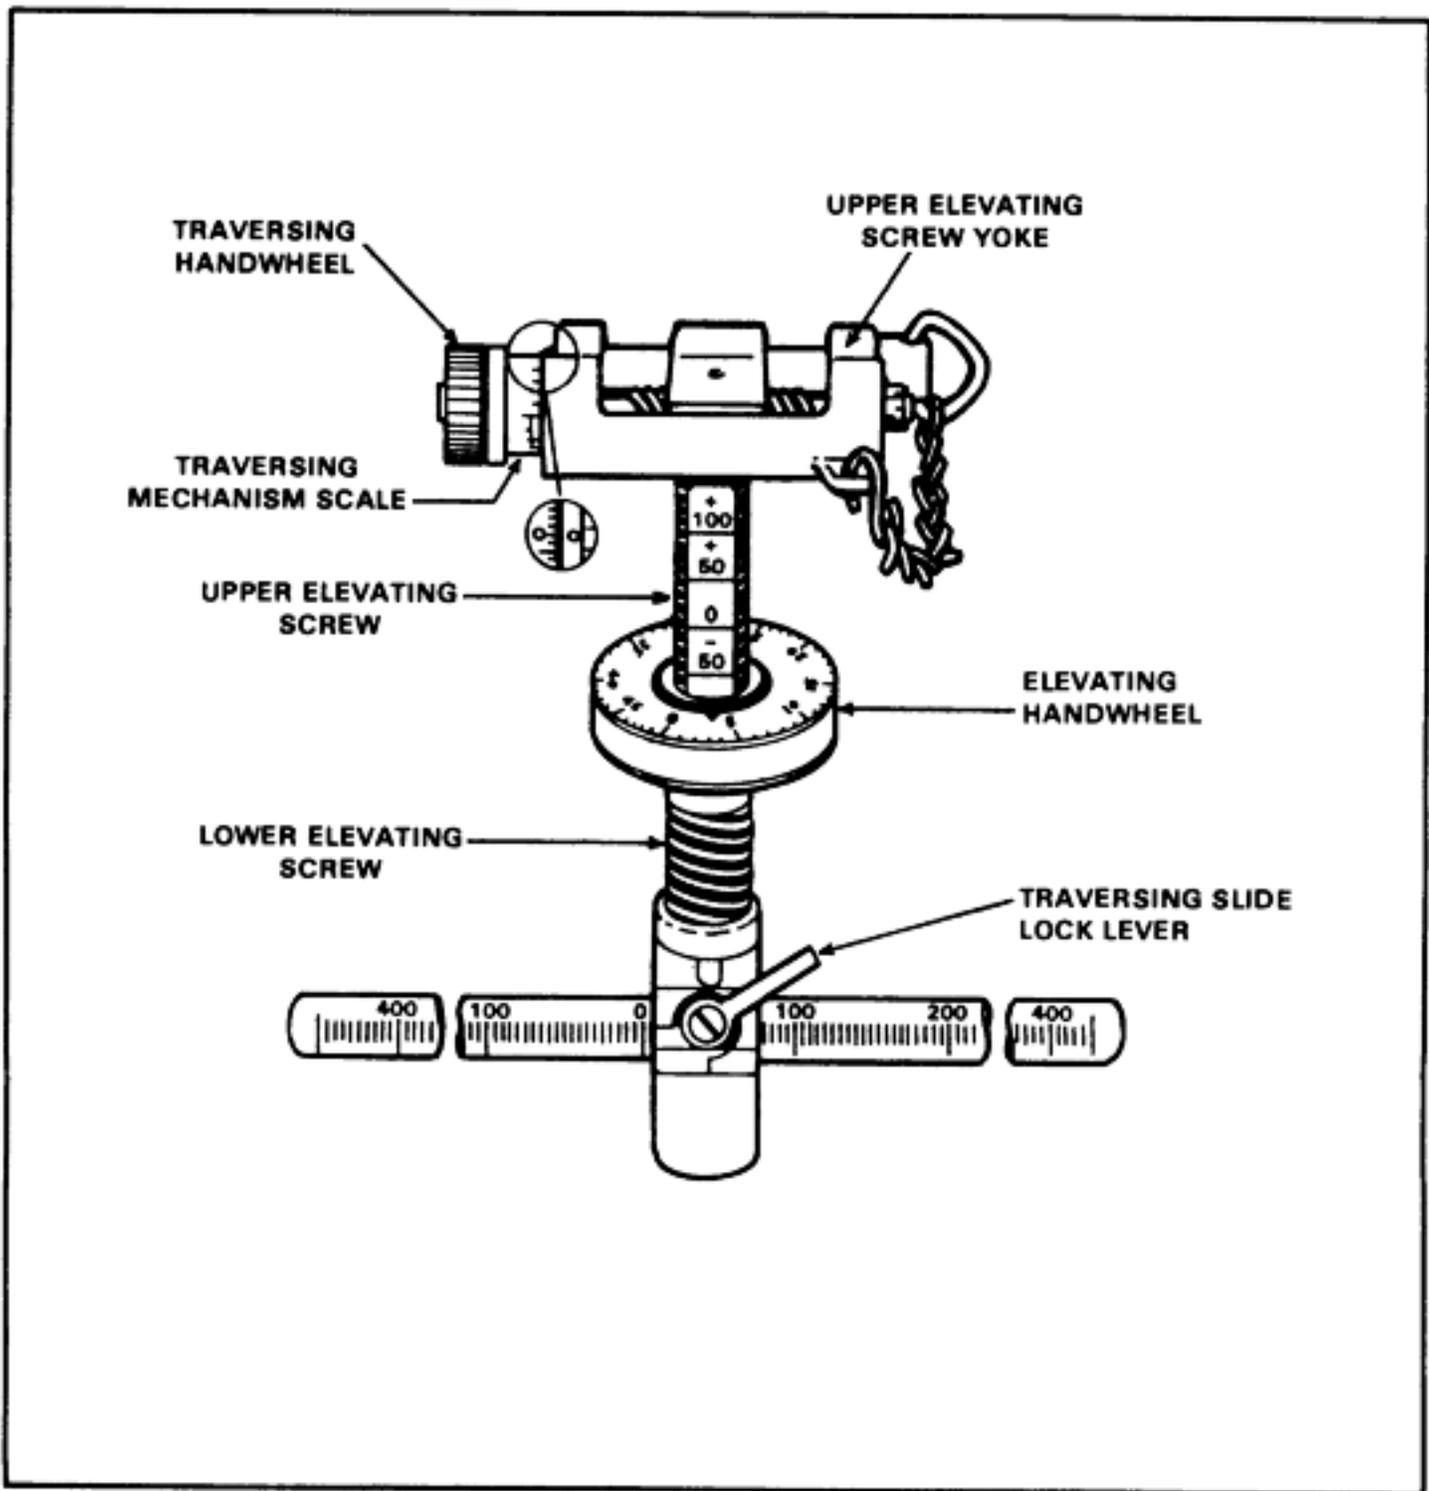

Figure 3-4. T&E mechanism.
(3) Lock the pintle lock release cam to secure the gun cradle. Check the gun cradle, by pulling up on it slightly, to ensure that it is seated and locked.
e. Attach the T&E mechanism (Figure 3-4):